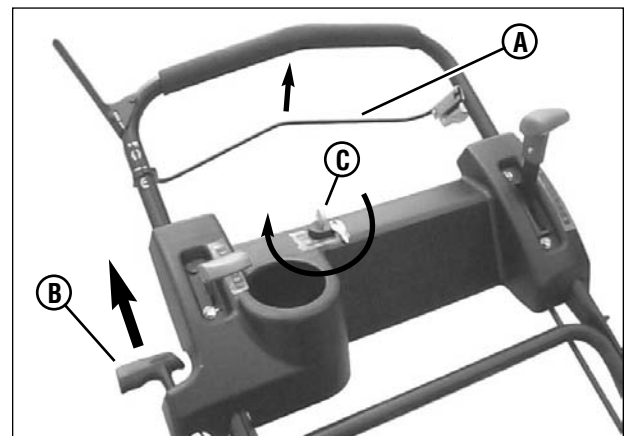

Figure 4: Starting the mower
3. Pull the blade control (**A, Figure 4**) against the handle.
3. Pull the blade control (A, Figure 4) against the handle.
4. Pull the rope start handle (B) to crank the engine.